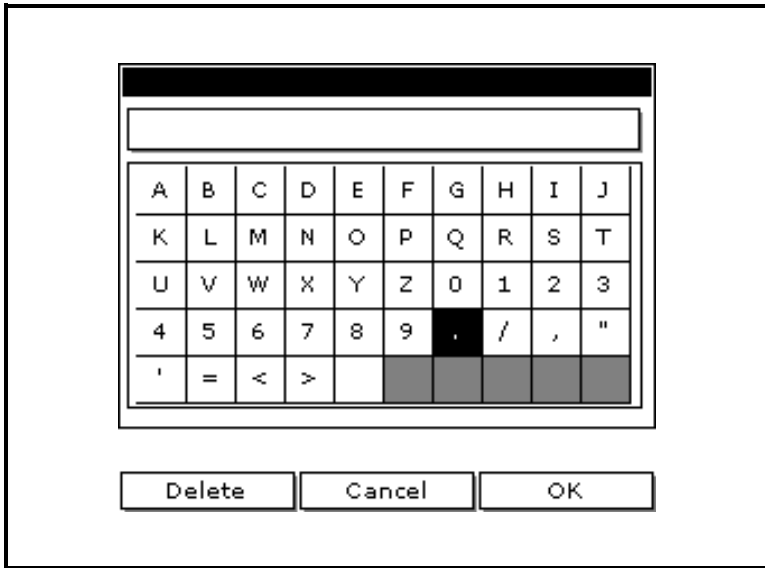

Figure 4-7: The Text Creation Window
- Use the arrow keys to move to the Label box and press [ENTER]. A screen similar to Figure 4-7 below appears.